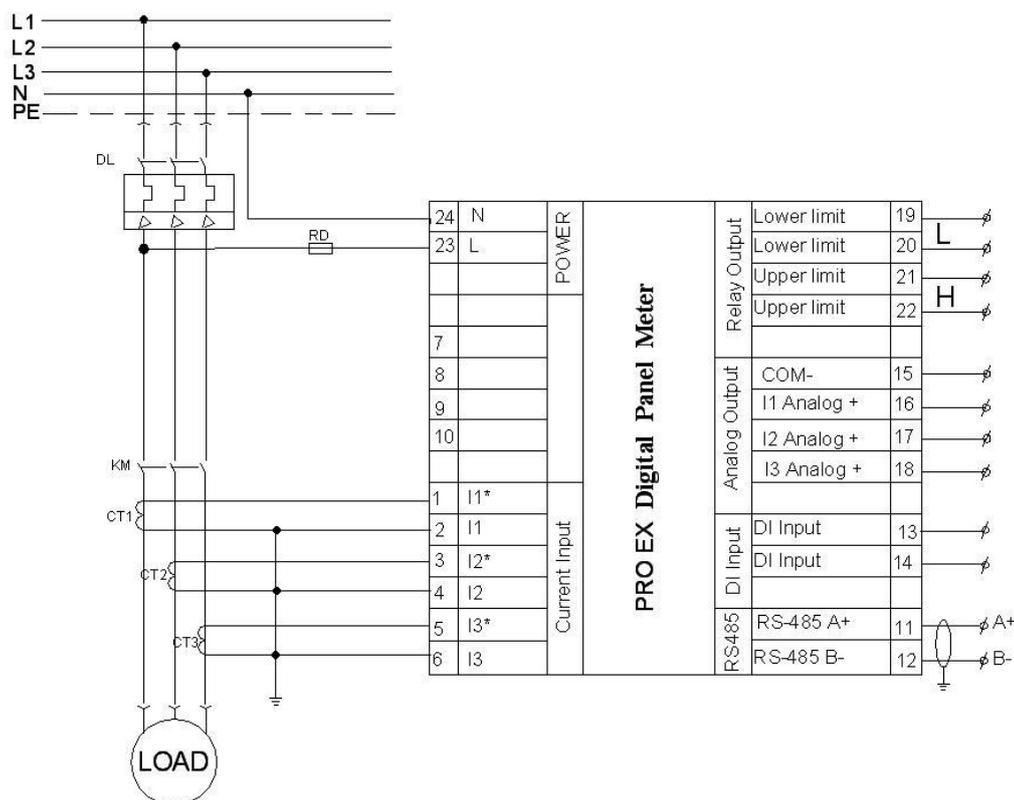

Fig. 4 PRO EX I53Wiring Diagram
1.4.11.5 Analog Output Setting (Details of output ports, please see Fig. 4)